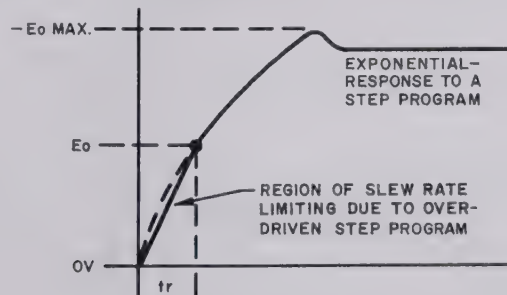

FIG. 4-5 DEFINITION OF MAXIMUM SLEWING RATE.
- 4-22 **MAXIMUM SLEWING RATE.** *The maximum slewing rate is the fastest time rate of change of which the operational power supply is capable.* The slewing rate is specified with the output fully loaded and measured as the output response to an input step function. As the exponential response to a step-input (such as a square wave, for example) is displayed on an oscilloscope, a slight increase in input amplitude will make rate limiting evident on the rising portion of the output waveform. (See FIG. 4-5.)